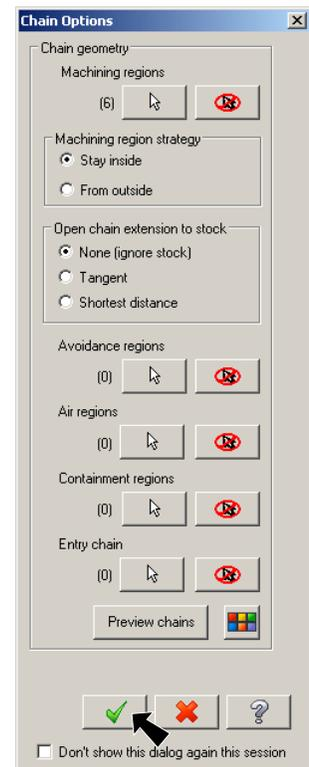

Fig. 62
Step 6. Click OK  in the Chain Options box, **Fig 62.**